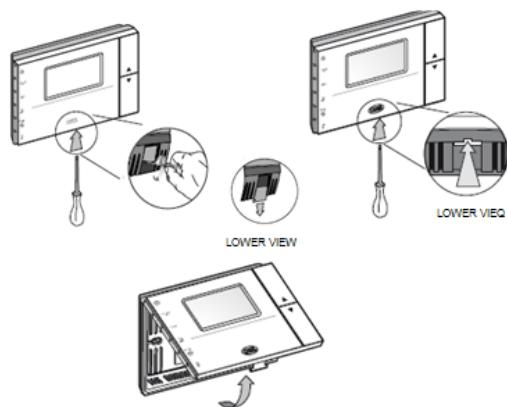

Fig.2
- separate the front panel from the rear part by levering the tab, as shown in Figure 2.
- To ensure electrical safety (EN60730-1), insert the plastic tab and tighten the screw to stop the instrument from opening (see Fig. 2).